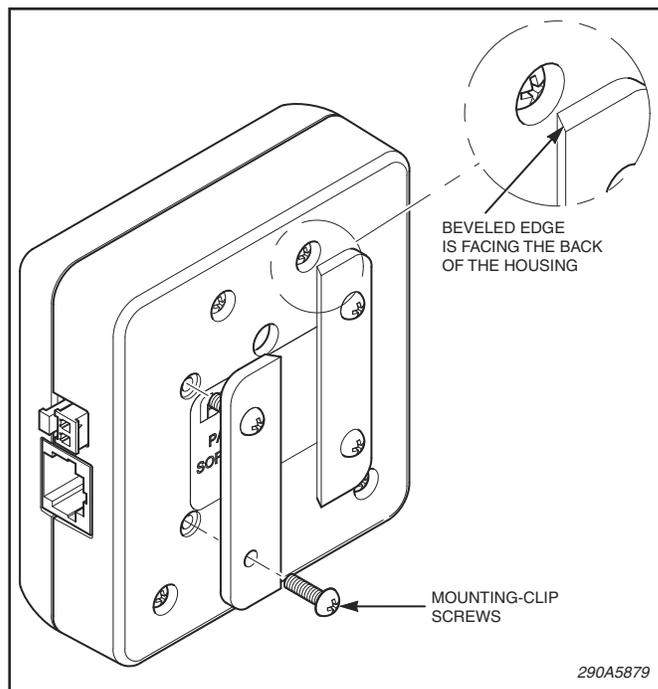

Figure 1.
a. Using Figure 1 as a guide, loosely install the mounting clips to the back of the control head housing. When installed properly the beveled edges of the clips will be toward the center on the housing as illustrated. Do not overtighten screws.